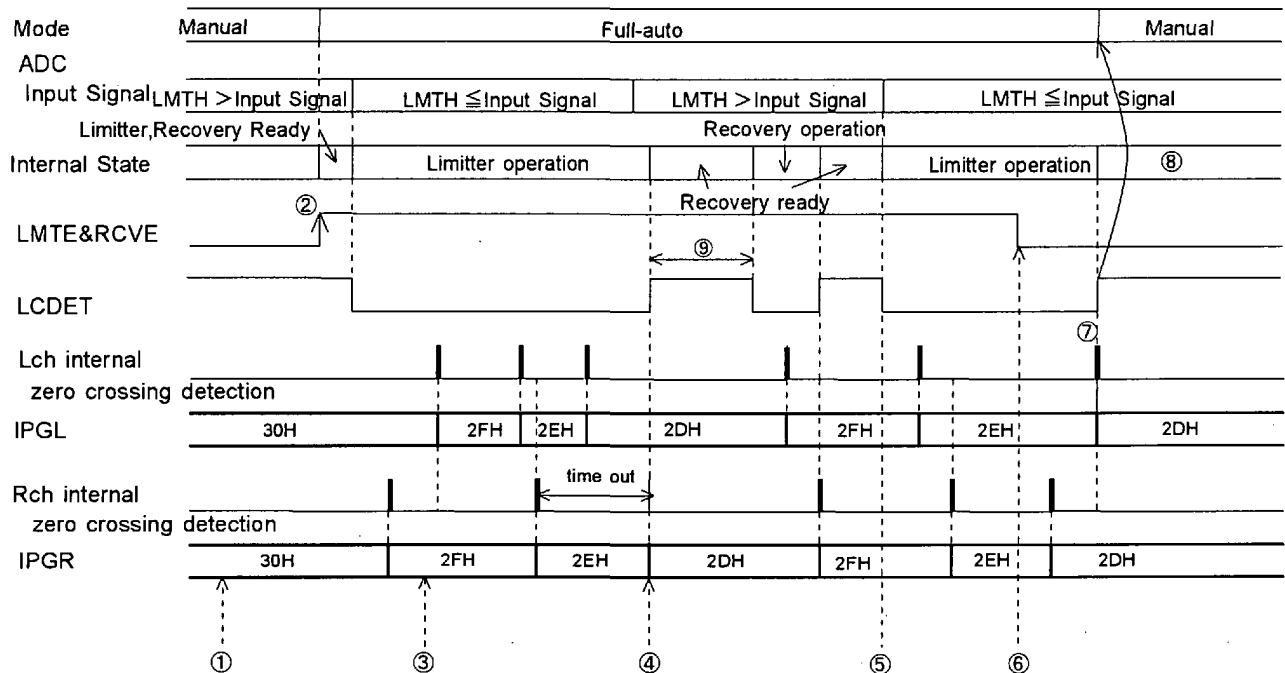

Figure 9 . Control example of full-auto mode operation (LMAT=RATT: 1 step, ZENM=ZELM="1")
- ② WR(LMTE=RCVE="1"): After the registers concerned in the auto limiter operation is set up and confirming the zero crossing flags(ZFIPL, ZFIPR)="1", LMTH and RCVE are set "1".
- ③ WR(IPGA="31H"): As the operation is full-auto mode, writing by uP is ignored.
- ④ The ready of recovery starts.
- ⑤ As the input signal of ADC exceeds LMTH, the recovery operation (in the figure, recovery ready) is discontinued and the limiter operation starts.
- ⑥ WR(LMTE=RCVE="0"): The full-auto mode operation is completed.
- ⑦ In Figure 9 , since "0" is written to LMTE & RCVE during the ATT operation, the operation changes to the manual mode after completing ATT operation. After confirming LCDDET="1", it is possible to change the each register set-up. If LMTE&RCVE are set "0" during the full-auto mode operation, LCDDET becomes "1" after the max "1" ATT/GAIN operation is completed by internal state.
- ⑧ In this case, the input signal of ADC exceeds LMTH, the auto limiter does not operate because of LMTE=RCVE="0".
- ⑨ After the limiter operation is completed, the AK4516A waits for the time set by WTM1-0. If the input signal does not exceed (LMTH - 2dB), the recovery operation is executed. After the waiting time finishes the next waiting time starts immediately. In recovery ready, the waiting timer is reset under the condition of (LMTH - 2dB) ≤ Input Signal < LMTH. And the timer starts under the condition of (LMTH - 2dB) > Input Signal.